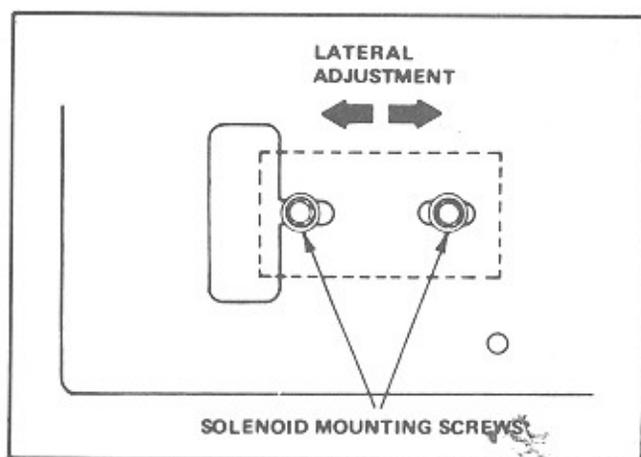

Figure 3-10. Lateral Adjustment
2. Loosen the solenoid mounting screws and with the roll pin against the plunger, position the solenoid so that there is a $.015$ to $.025$ inch gap between the sprag lever and the highest point on the sprag wheel (See Figure 3-10.).